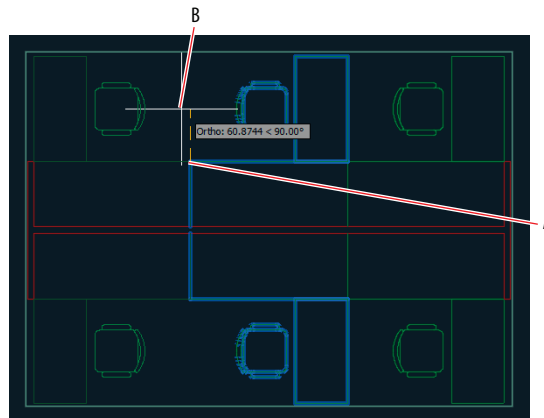

FIGURE 4.26 Mirroring furniture blocks
4. Zoom into the furniture system that is missing two desks in the upper-right quadrant of the building. Toggle on Ortho on the status bar if it is not already on. Click the Mirror tool in the Modify panel. Make crossing and individual line selections to select the desks and chairs shown in Figure 4.26, and press Enter. The command line reads as follows: